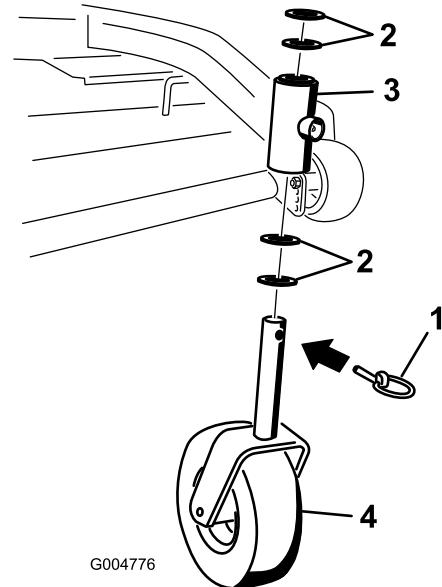

Figure 32
2. Remove the locking pin and spacer(s) from the top of the caster wheel fork (Figure 32).